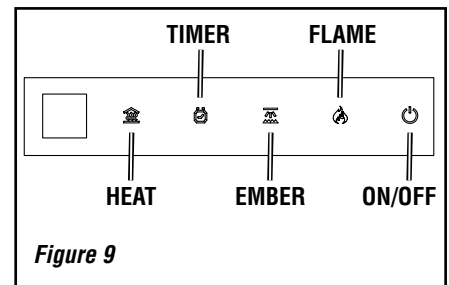

Figure 9
1. Complete the framing opening to the dimensions specified in **Figure 3**. Ensure that the fireplace is in the off position (see **Figure 9**).
1. Prepare the wall recess and electrical receptacle as seen in **Figure 3, Page 4**. It may be necessary to shim the wall bracket to the wall forming the rear of the recess to meet the minimum distance from the bracket to the appliance (see **Figure 9**).
This appliance can be activated by using the touch panel control (see **Figure 9**) or by using the remote control when the unit power switch is already in the "ON" position.
The manual touch panel controls with LED display are located at the lower right corner of the fireplace (see **Figure 9**).